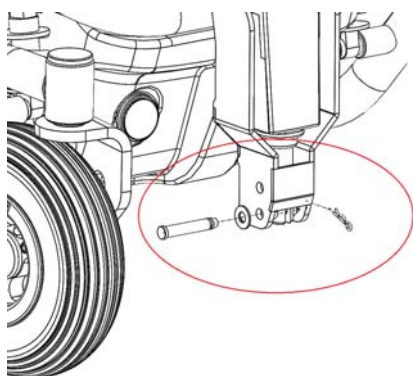

Figure 5-87
5.3.6.2 If the desired seat angle can be 5°, pull out the hair pin cotter and clevis pin from the lower hole (Figure 5-87) and insert them in the upper hole.